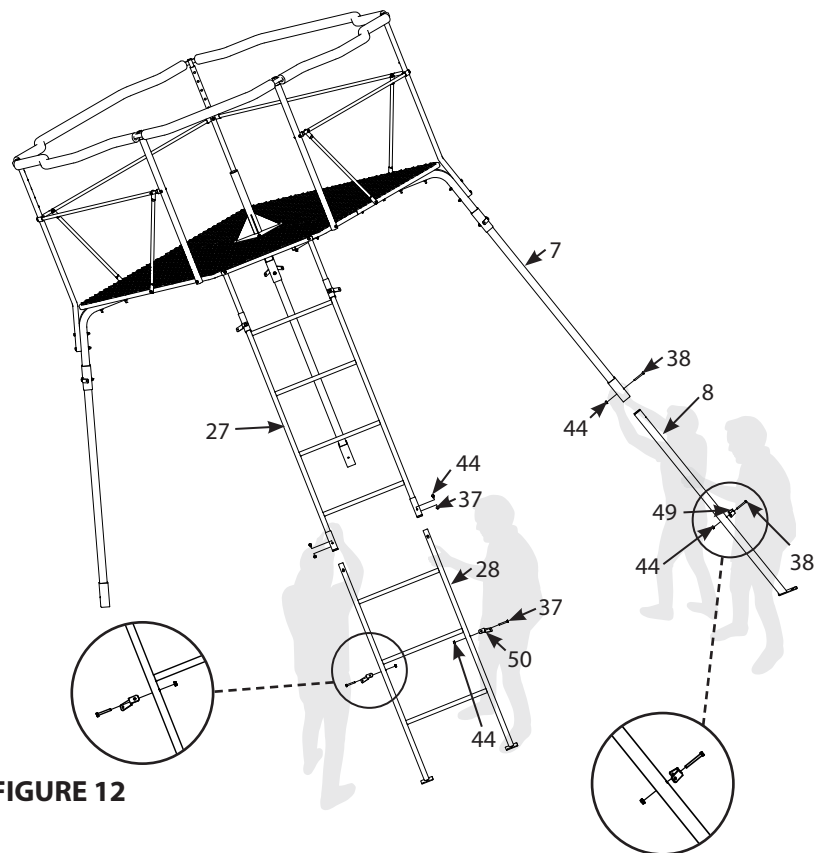

FIGURE 12
12. With the help of two people, slowly tip the partially erected quad pod onto two legs as shown in Figure 12 by lifting on the opposite leg and ladder. Once the two people have the quad pod balanced securely, the third person must insert one bottom leg (8) into top leg (7). Make sure foot pad is pointing outward. Secure the top and bottom leg parts together using a 1/4-20 X 2-1/4 IN bolt (38) and 1/4-20 nut (44). **SEE FIGURE 12.**
Then, insert the bottom ladder section (28) into the top ladder section (27) and secure together using two 1/4-20 X 1-3/4 IN bolts (37) and 1/4-20 nuts (44). Make sure the foot pads are pointing outward. **SEE FIGURE 12.**
Attach a brace-to-leg attachment bracket (49) to bottom leg (8) using a 1/4-20 X 2-1/4 IN bolt (38) and 1/4-20 nut (44). **SEE FIGURE 12.**
Attach two brace-to-ladder attachment brackets (50) to the bottom ladder section (28) and secure with a 1/4-20 X 1-3/4 IN bolt (37) and 1/4-20 nut (44) on each side. **SEE FIGURE 12.**